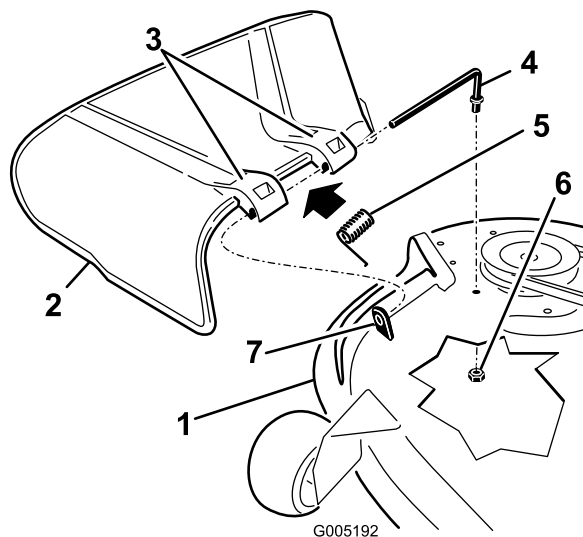

Figure 65
1. Remove the nut (3/8 inch) from the rod under the mower (Figure 65).
2. Slide the rod out of the short standoff, the spring, and the grass deflector (Figure 65).
4. Replace the grass deflector (Figure 65).
7. Slide rod through the second grass-deflector bracket (Figure 65).
9. Secure the rear end of the rod into the mower with a nut (3/8 inch) as shown in Figure 65.